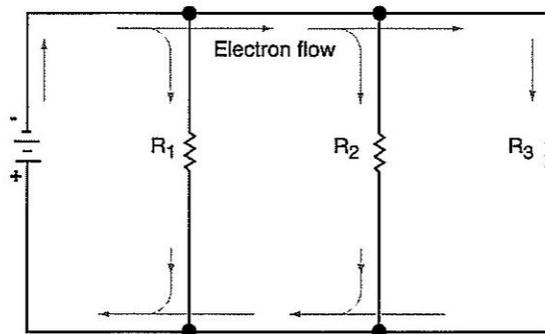

Figure 8.5: Parallel Circuit
- 8-35 Some circuits have two or more paths for the current to follow. Such a circuit is called a **parallel circuit**. The path branches, as shown in Figure 8.5. When current leaves the source, it divides among the branches according to the resistances of the loads in the branches.